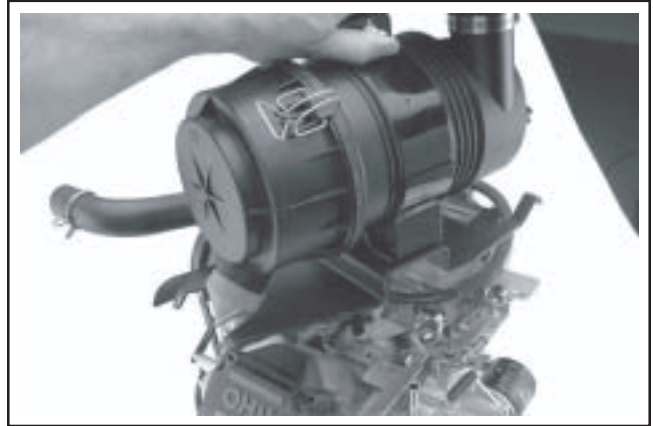

Figure 9-17. Removing Air Cleaner from Engine.
3. Lift the air cleaner/mounting bracket assembly off the engine. See Figure 9-17.